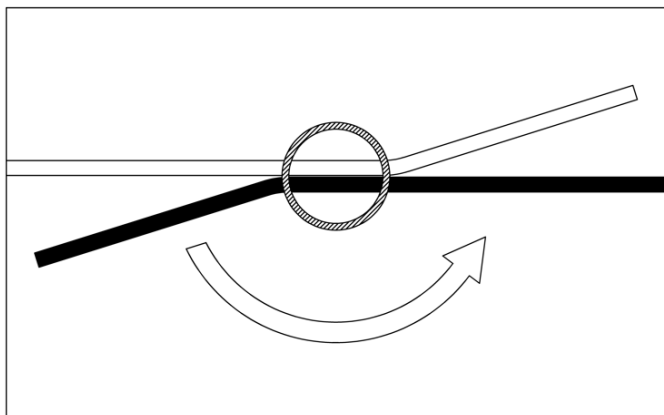

Fig 9. Rotate wire 3/4 of a turn.
2. Rotate the first wire around the arm 3/4 of a turn (Figs 9 and 10).